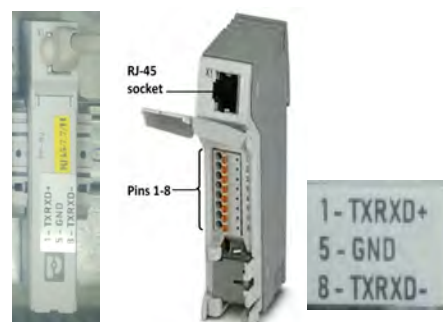

Figure 5-22: RJ-45 connector - L closed, M opened, R label
- Step 1.** Extend the Data cable connected to Connection Box #1, out to the **Control Module** and connect it to the following terminals on the RJ45-7.7 port of the Control Module (Figure 5-22).
- Step 2.** Open the lid of the RJ-45 connector on the AB Control Module (Figure 5-22)
- Step 3.** Connect the Data cable wires to the RJ-45 connector as follows (see label in Figure 5-22):